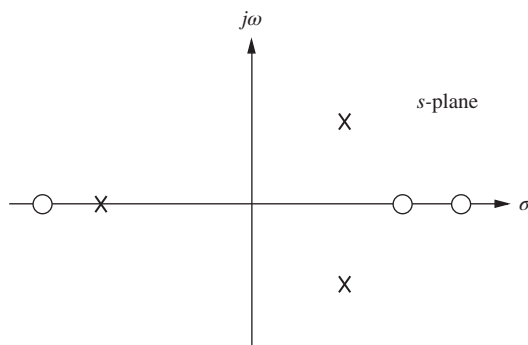

FIGURE I-8.1
3. Figure I-8.1 shows open-loop poles and zeros. There are two possibilities for the sketch of the root locus. Sketch each of the two possibilities. Be aware that only one can be the *real* locus for specific open-loop pole and zero values. [Section: 8.4]